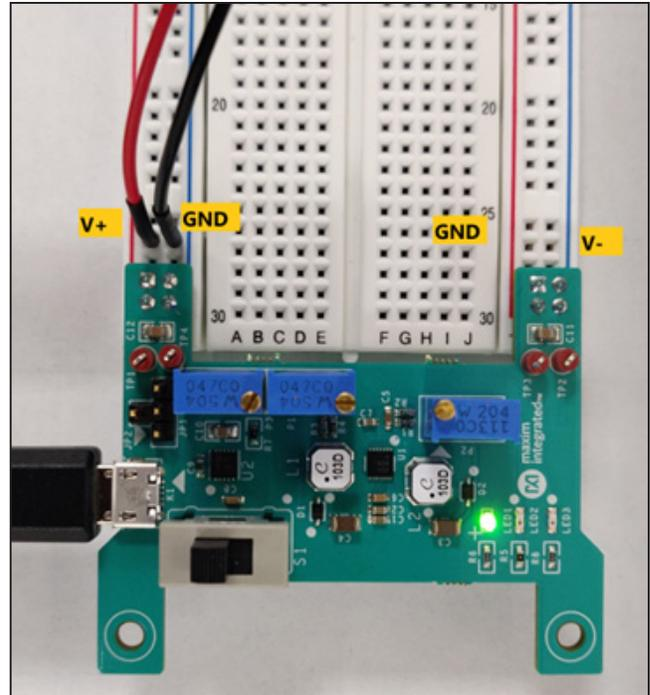

Figure 2. MAXREFDES1316 connections.
- 1) Plug the MAXREFDES1316 reference design in the horizontal power rails of the MB102 breadboard as shown in Figure 2. Across connector J1, the outer rail corresponds to V+ whilst across connector J2, the outer rail corresponds to V-. Both the inner power rails correspond to a common GND.